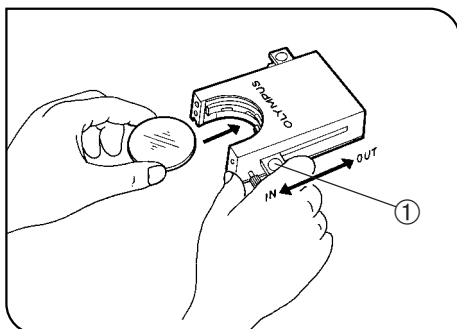

Fig. 7
Using the Filter Cassette (Figs. 7 - 10)
- 2. Slide lever ① to the IN position. Make sure that it clicks securely into place. (Fig. 7)
- 3. Holding the lever in the position shown in Fig. 7, put the filter into the cassette by inserting it in the direction indicated by the arrow.